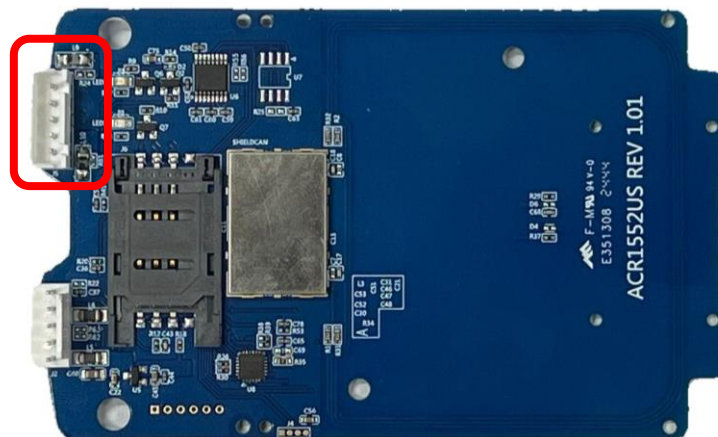

Figure 4: ACM1552D via Serial Interface
1. Connection socket **J5** via RS-232 cable to another peripheral device (see Figure 4).